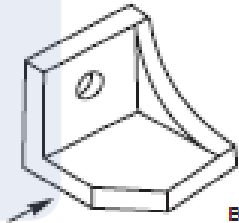

Figure 5
26. Identify the front view of the object in figure 5 following the arrow.